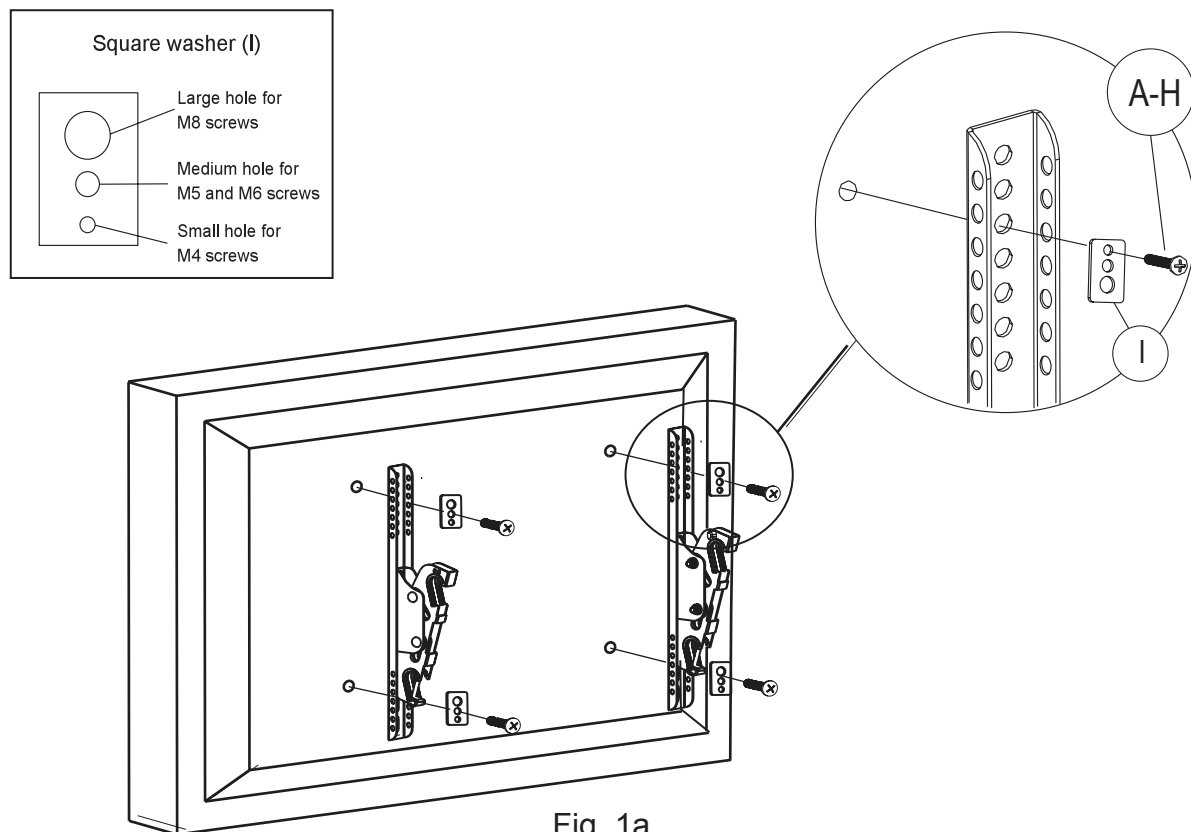

Fig. 1a
If your television has a straight back, spacers are not required. Use the selected bolts (A-H) and square washers (I) to install the bracket directly on the back of the television as shown in Fig 1a. Make sure that the two brackets are equal in height and are level. Once the brackets are aligned, securely tighten the bolts. If necessary, use additional washers (N, O) to make sure the bolts (A-H) keep the bracket snug to the rear of the TV without over tightening.
If your television has a curved back and mounting holes are recessed (Fig. 1a) spacers are required. Install the spacers (M) between the display and the bracket as shown in Fig 1b. Then, use the appropriately selected bolts (A-H) applicable to your TV and the square washers (I) to install the brackets with spacers to the back of the television. Make sure that the two brackets are equal in height and are level. Once the brackets are aligned, securely tighten the bolts (Fig 1b). If necessary, use additional washers (N,O) to make sure the Bolts (A-H) keep the brackets snug to the rear of the TV without over tightening.